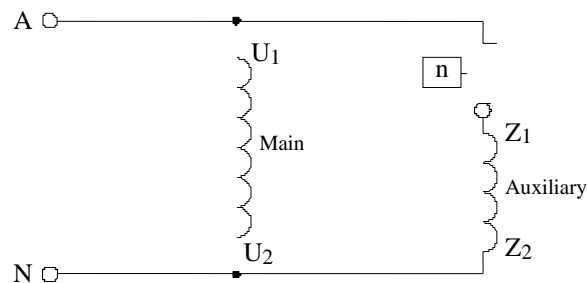

Figure 2
1. Connect the windings of the motor as shown in figure 2.